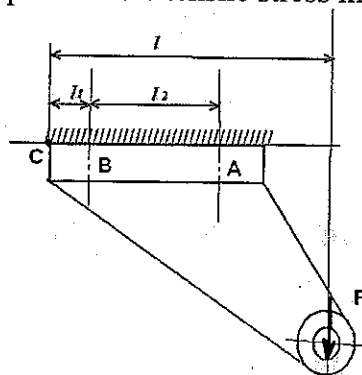

Figure: 2
4. A cast iron bracket fixed to the steel structure is shown in the figure 2 below. It supports a load P of 25kN. There are two bolts at A and two bolts at B, the distances are as follows $l_1 = 50\text{mm}$; $l_2 = 50\text{mm}$; $l = 400\text{mm}$; determine the size of the bolts, if maximum permissible tensile stress in the bolt is 50N/mm^2 .